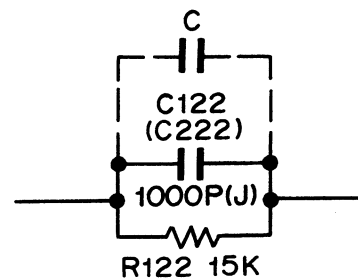

Fig. 7.13
(1) For ZX Tape
- (b) Feed in 10 kHz and 400 Hz (-20 dB) then record and play it back. Check the difference of the levels between 10 kHz and 400 Hz, and mount an additional capacitor in parallel with the C122 (C222) from the dip side of the printed circuit board depending upon the difference of the levels against 400 Hz. Refer to Fig. 7.13.